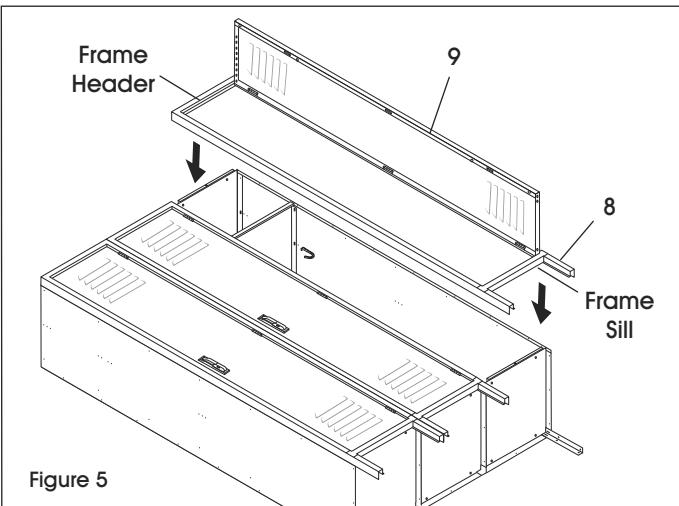

Figure 5
9. Place door and frame assembly (8 and 9) over the locker body. Make certain body sides are inside the frame and not between the frame. Attach top to frame header and bottom to frame sill (one bolt each). Finish by attaching door and frame assembly to the sides of the locker body (bolts will be shared with the door and frame on either side). (See Figure 5) If joining a 3-wide unit beside another unit skip to JOINING UNITS TOGETHER below.